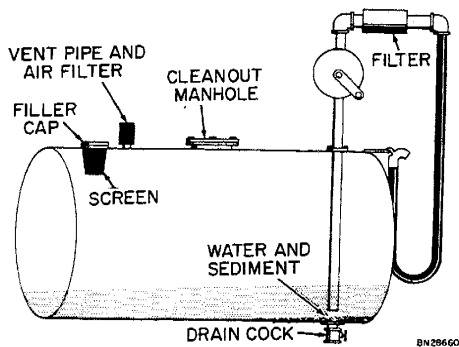

Figure 10- Recommended Fuel Storage Tank
1. A rust-proof storage tank similar to the one illustrated in Fig. 10 provides a good permanent storage tank. Main storage tanks of this type should be provided with a shelter so fuel can be kept as cool as possible.